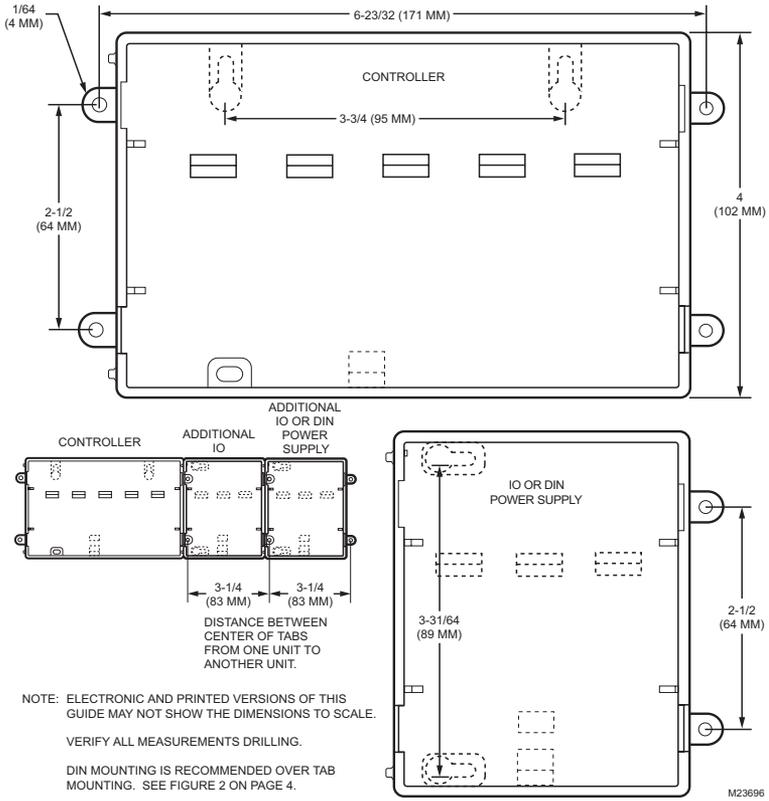

Fig. 1. Tab Mounting Dimensions.
- If DIN rail mounting is impractical, use screws in mounting tabs on the controller, then in any end-connected accessory. Tab dimensions are shown in Fig. 1.